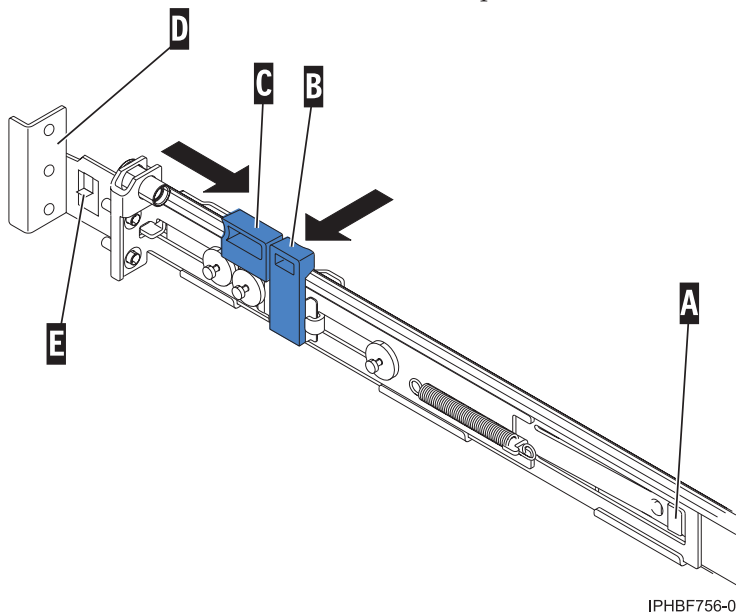

Figure 94. Tapped-hole rack rail assembly setup
5. From the back of the rack, insert the back-alignment pins (Figure 94) into the hole at the back of the rack identified by the self-adhesive placement dot that you previously installed. Have a second person hold the rail securely in the back hole.
6. Press the release tab **A** (Figure 94) to extend the back-alignment pins into the back of the rack. Ensure that the pin passes through the correct hole in the rack frame.
8. Press the release tab **A** (Figure 94) to extend the two front-alignment pins into the front of the rack. Ensure that the pins have passed through the correct holes in the rack frame.